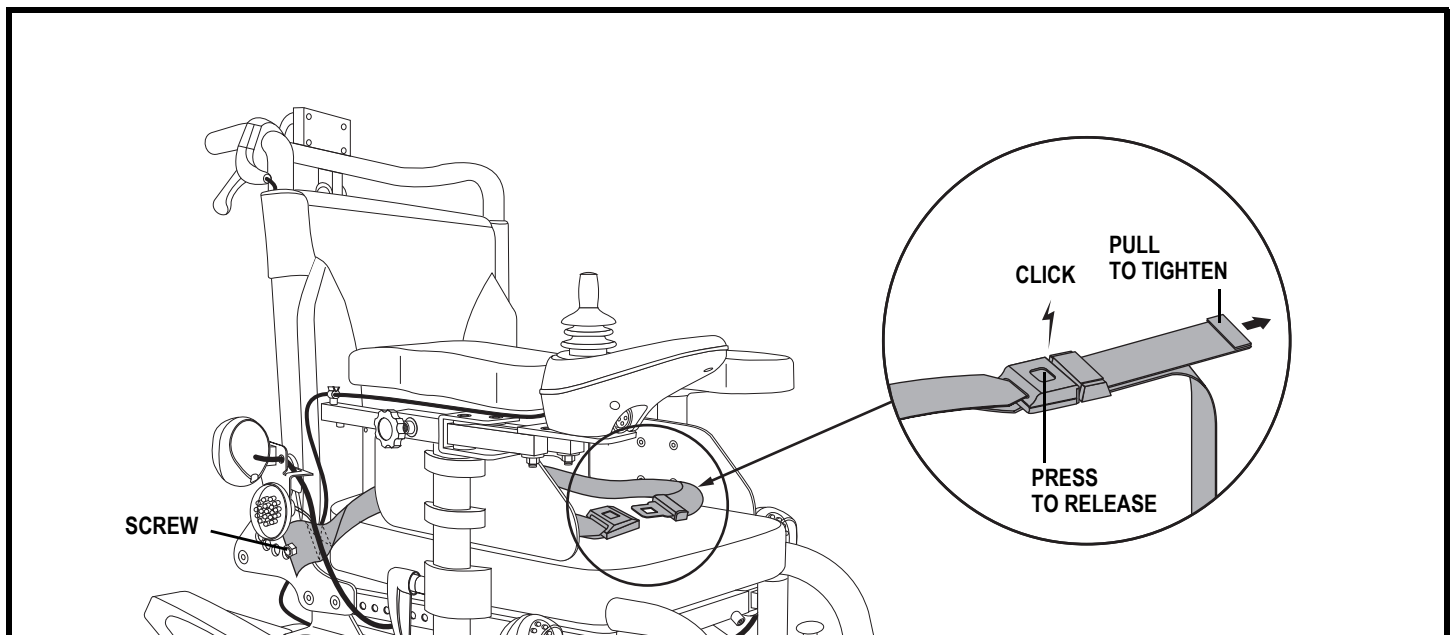

Figure 25. Positioning Belt Installation and Adjustment
Your power chair may be equipped with a positioning belt that can be adjusted for operator comfort. See **figure 25**. The positioning belt is designed to support the operator so that he/she does not slide down or forward in the seat. The positioning belt is not designed for use as a restraining device.
1. Insert the screw through the mounting tab at the end of the positioning belt and then through the seatback. See **figure 25**.